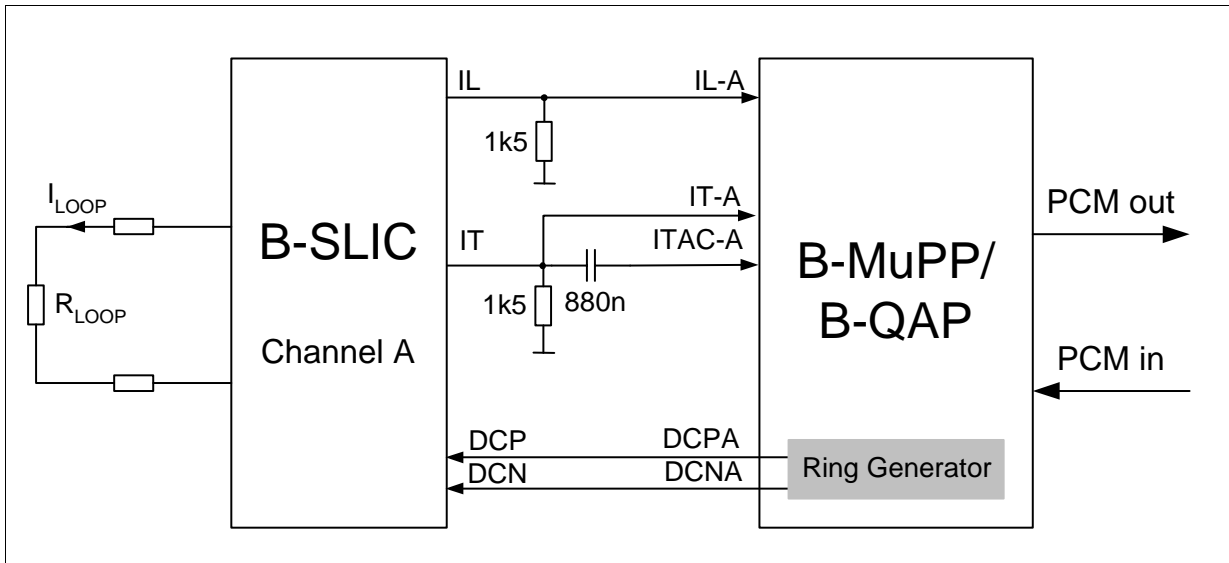

Figure 3-4 Resistance Measurement
- Subscriber-loop resistance, e.g., to localize short circuits (0 to 10 K Ω) (Figure 3-4)
Line testing with the B-MuSLIC is based on a voltage-feeding, current-sensing principle (Figure 3-4). An incoming PCM word is converted to a voltage on the tip-and-ring line. The load on the line affects the current flowing into it. This current is sensed via the B-SLIC, and relevant information is fed to the codec where it is transferred as a PCM-out-word to the PCM highway. The DC-feed characteristic is switched off in the line-test mode.